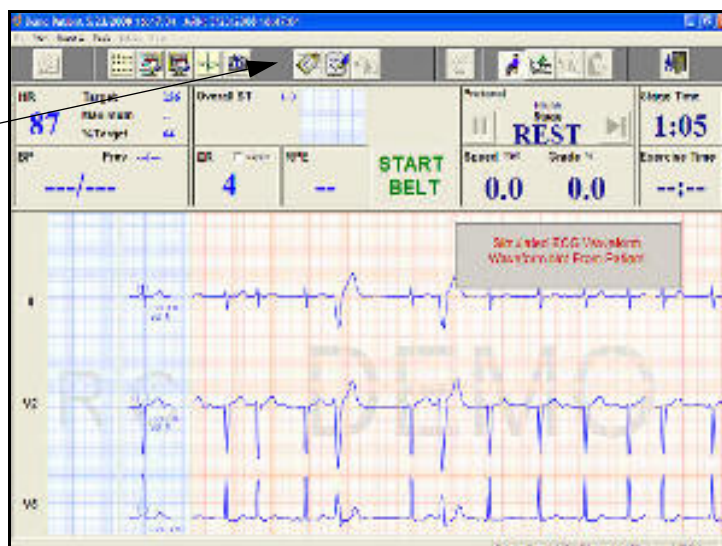

Figure 7-1: Example of a test screen
1. Click the **Start Rest** icon or press F12 to begin the Rest phase. The screen is displayed similar to the following. ECG waveforms should be traveling across the display. The test screen appears (Figure 7-1).